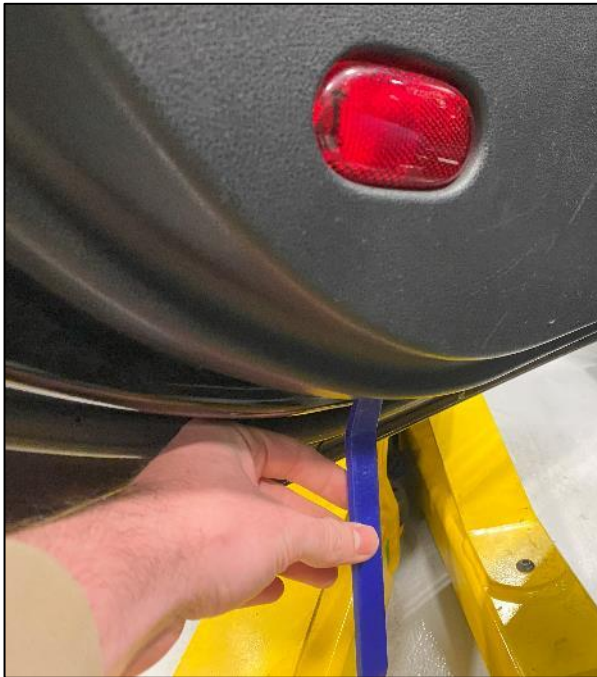

Figure 39
7. Using a Trim Removal Tool, pry the lower side of the Door Panel away from the door. Slowly go around the entire Door Panel to release it from the Door. Support the Door Panel from falling when it is released. *Figure 39.*